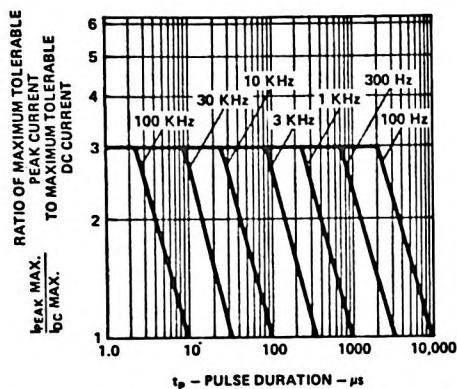

Figure 2. Maximum Tolerable Peak Current vs. Pulse Duration. (I_{DC} MAX as per MAX Ratings.)
1. See Figure 2 to establish pulsed operating conditions.